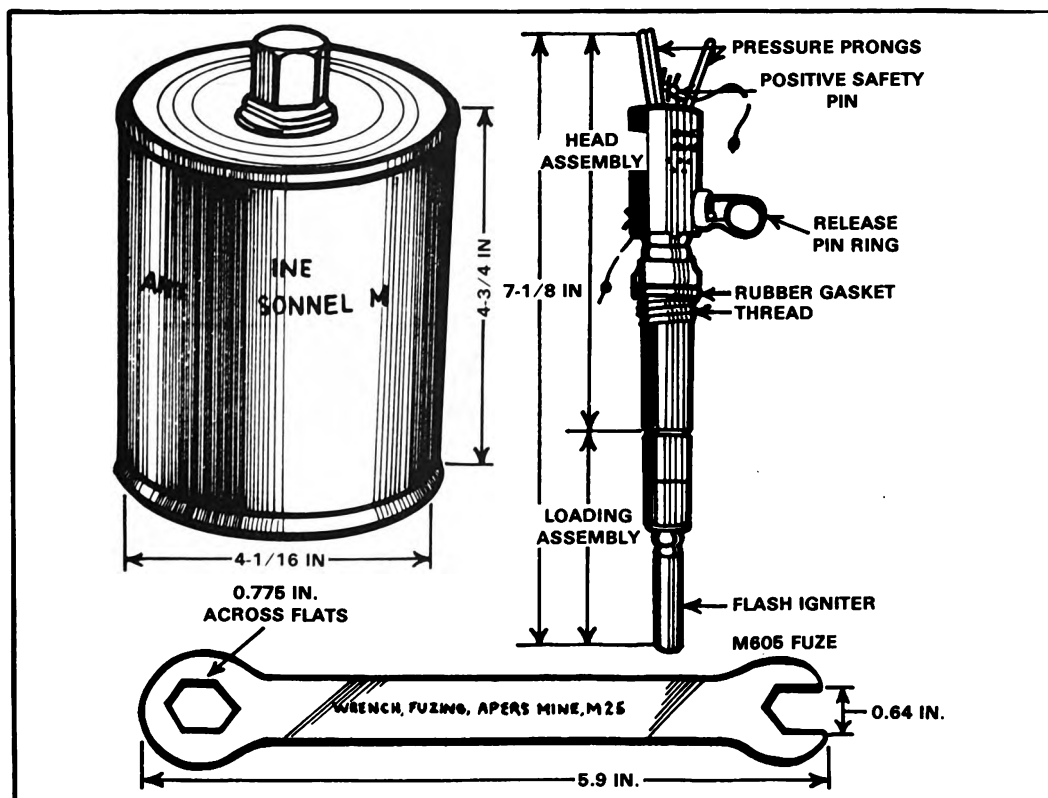

Figure 1.
- a. First, inspect the mine (figure 1) to insure all parts are present.